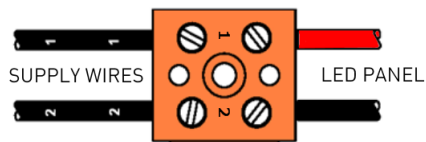

Fig 6
- i) Follow "Glass Lens Replacement" steps i to iii above to remove the lens, ii) Loosen and remove the screws (WF-442) retaining the LED board. Remove the two right-hand lens screws completely and now remove the six W-414 screws retaining the lamp bottom plate, iii) The LED board, lower plate, clamping plate and connector block can now all be separated from the head. [Take care not to damage the LED lenses when handling], iv) the LED panel can now be disconnected from the connector block and the new LED board connected Red to No.1, Black to No.2 See Fig 6